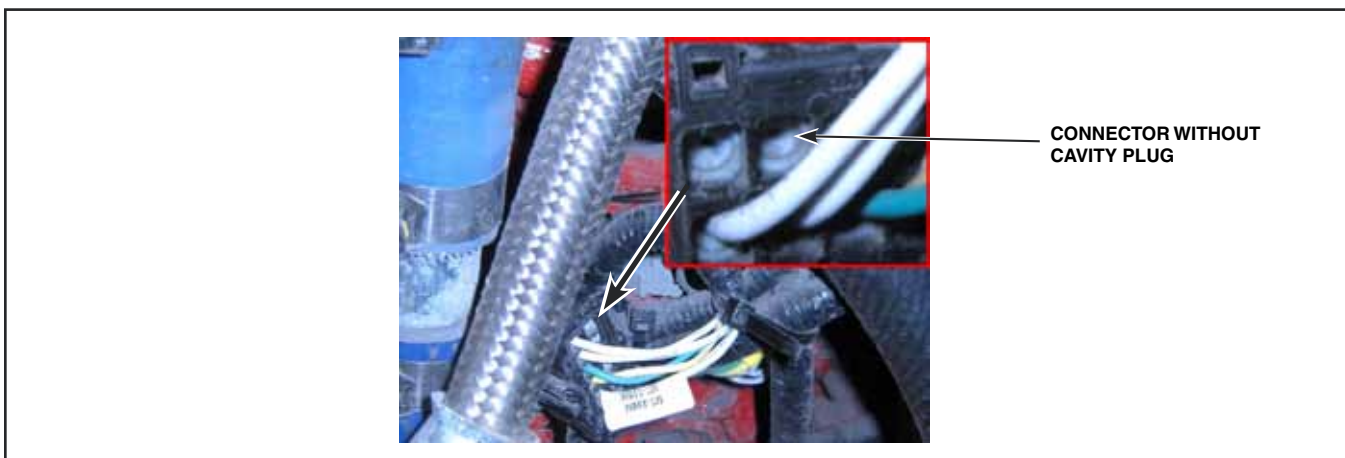

Figure 2 - Connector Without Cavity Plug
3. Visually verify whether the cavity plugs are present in the two connectors. See Figure 2.